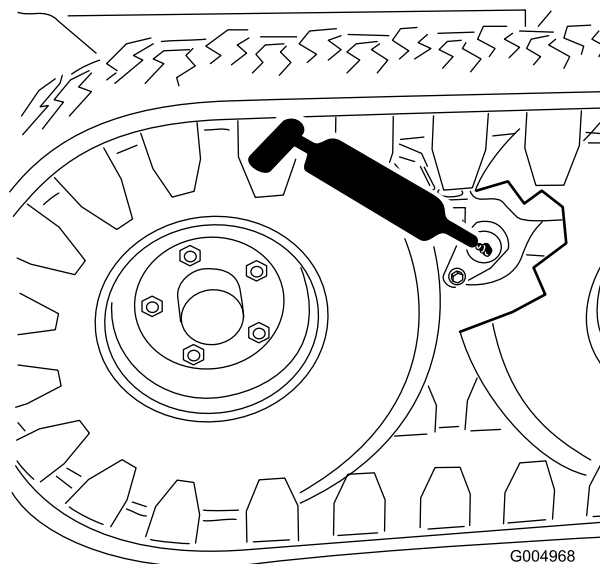

Figure 30
- Bogie pivot assembly—2 (Figure 30)